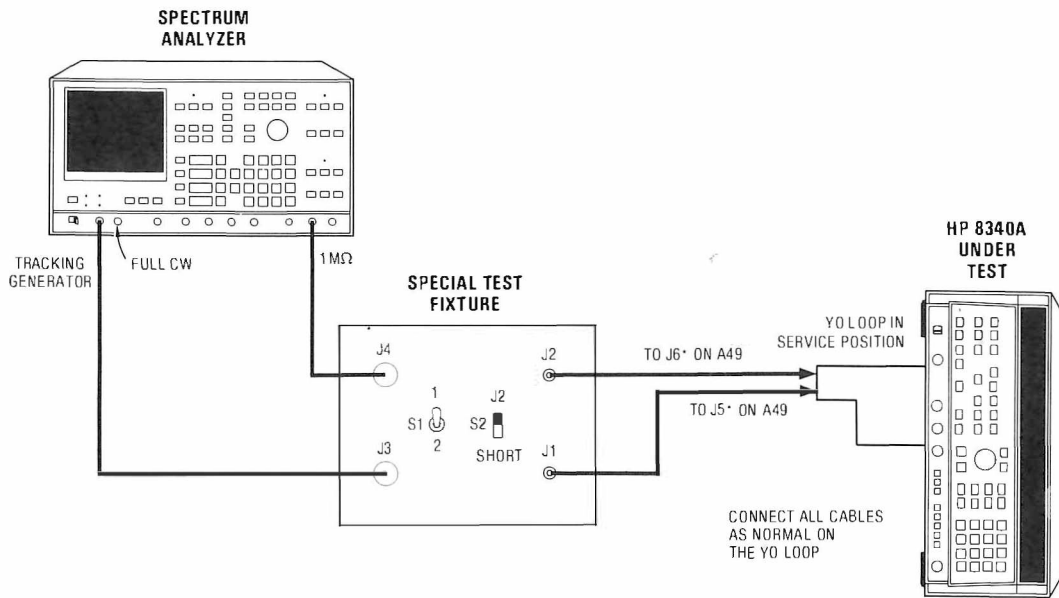

Figure 5-67. YO Loop Gain Test Setup
3. Connect Special Test Fixture and Spectrum Analyzer to YO Loop as shown in Figure 5-67.